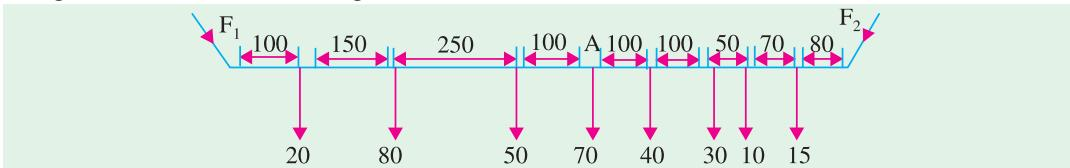

Fig. 40.12
**Solution.** The distributor along with its tapped currents is shown in Fig. 40.12. The numbers along the distributor indicate length in metres.